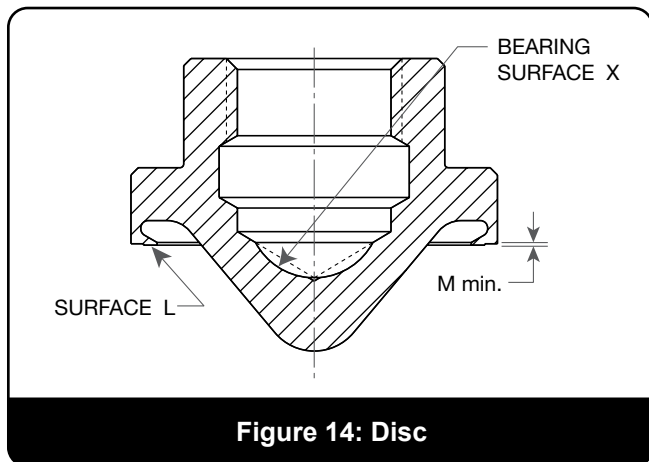

Figure 14: Disc
- (ii) The thermodisc cannot be machined. If, after lapping, Dimension M, in Figure 14, does not meet the minimum specified in Table 5, the disc should be replaced.